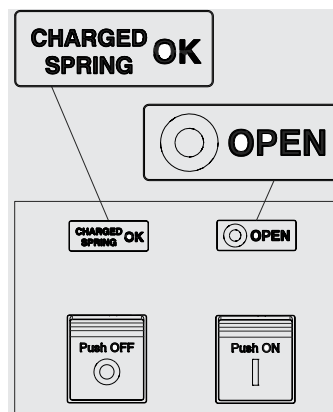

Figure 50
2. Circuit-breaker open with springs charged (see Figure 50).